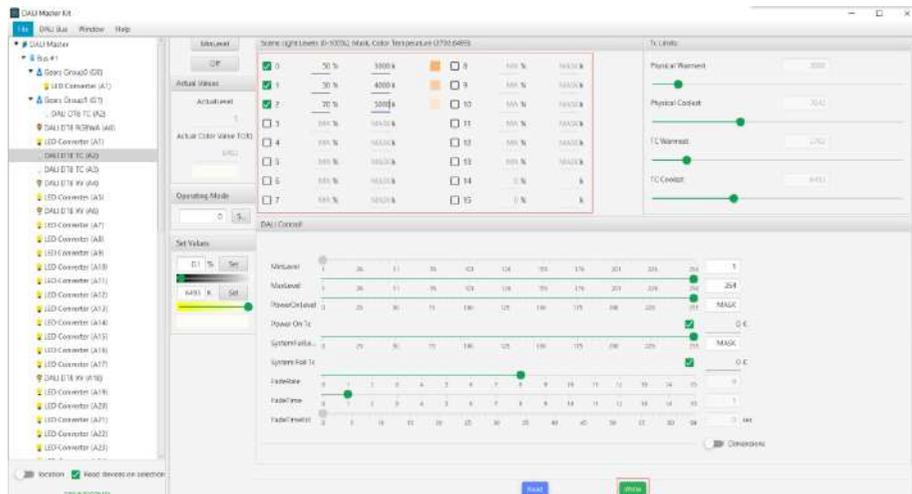

Figure 11 DALI Scene Configuration for DT8 Tc Device
4.3. For DT8 Tc device, brightness level & color temperature should be set for a DALI scene. After setting the parameters of the scenes, Click on **"Write"** button on bottom right of the window to write the scenes to the DALI device as shown in Figure 11.